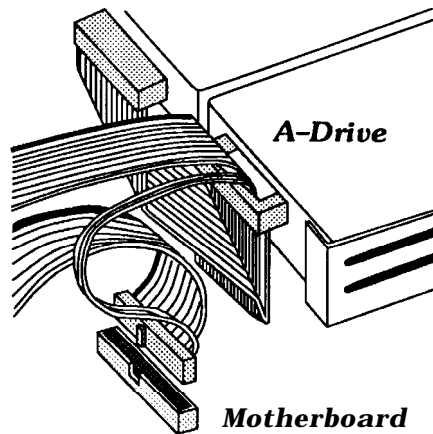

Figure 24
4. Route the Deluxe Option Board cable up through the small opening on the right and make the connection to the motherboard. (See Figure 24)